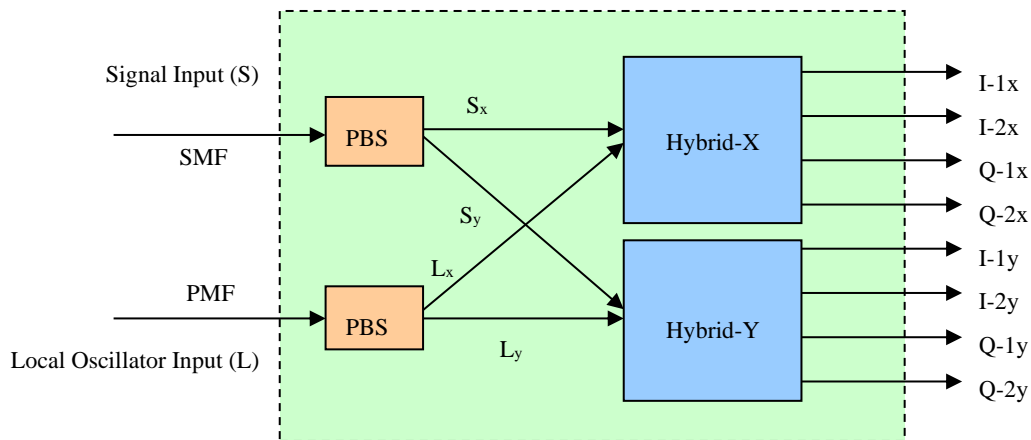

Figure 6.1, Functional Diagram of 2x8 DP-QPSK coherent mixer.
The 2x8 DP-QPSK coherent mixer consists of two standard 90deg optical hybrids inside, each works on one polarization. In front of them (the two 90deg hybrids), there is one PBS at the Signal-path to split the signal into two, and similarly a beam splitter (BS) in the Local-path to split the local signal into two. See the functional diagram in Figure 6.1 below.